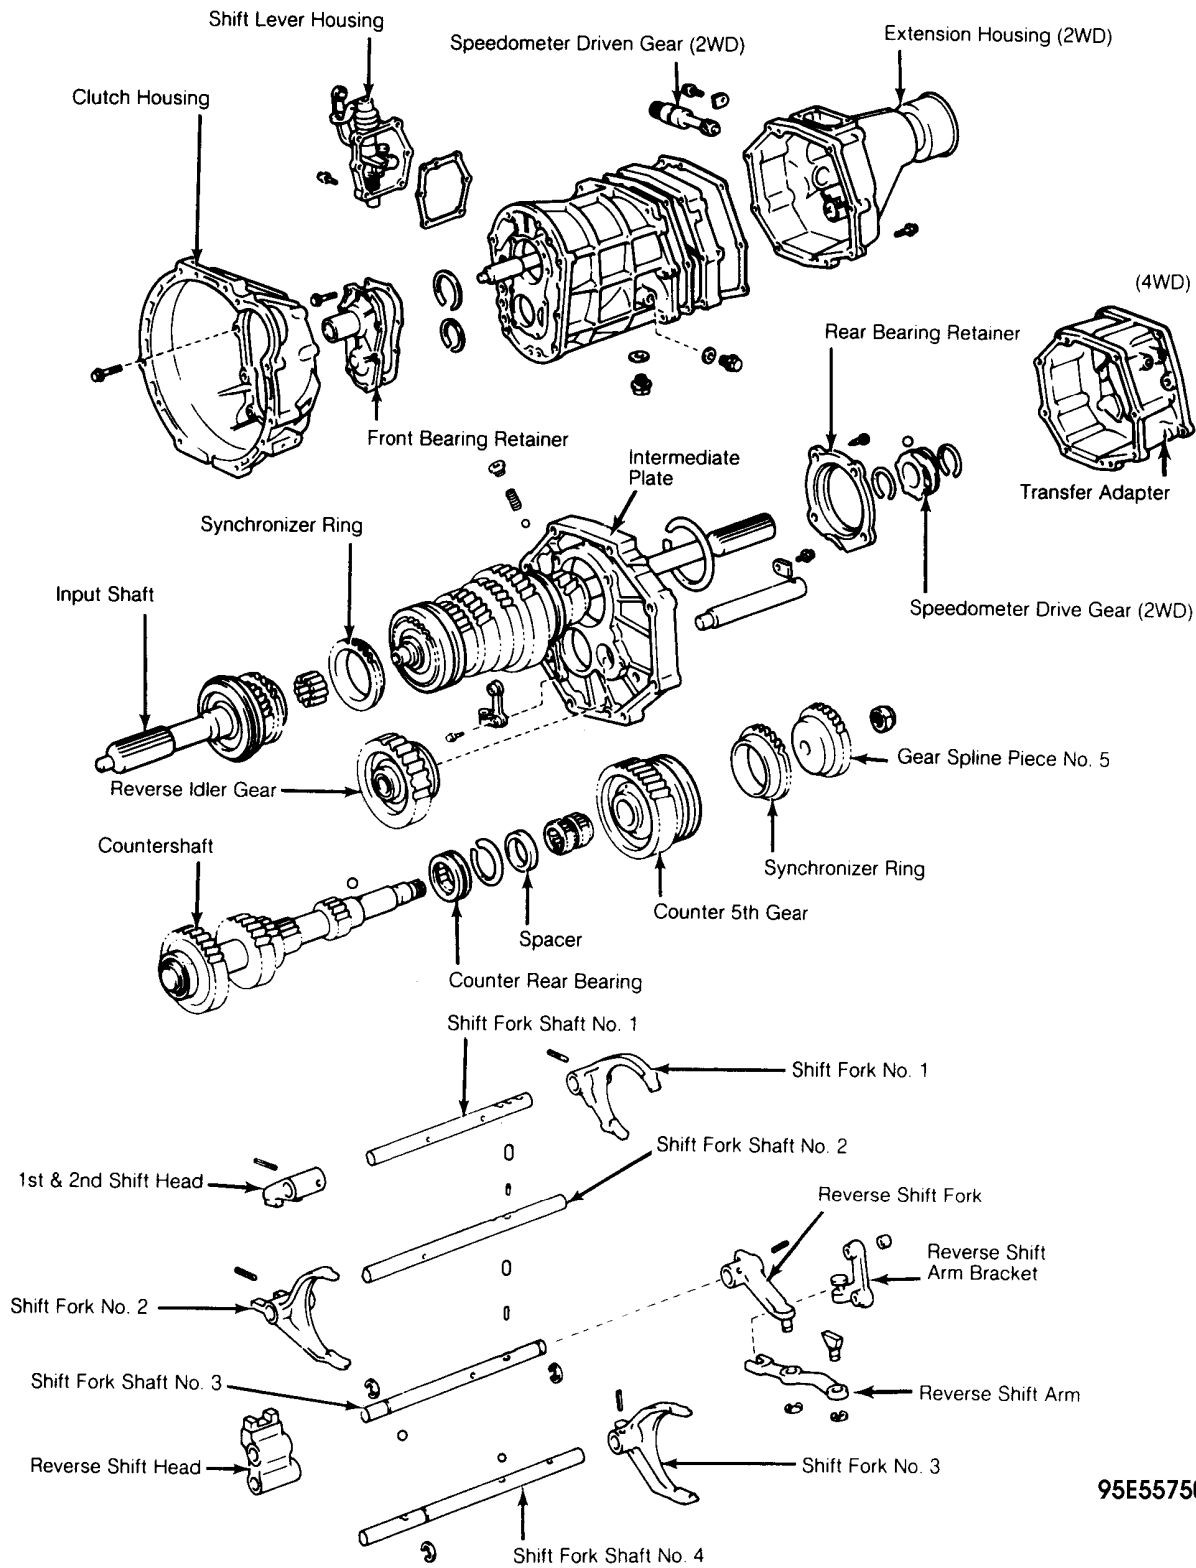

Fig. 3: G53 Case & Shifter Fork Assemblies
2. Remove shift lever housing assembly. Remove 8 extension housing bolts. See Fig. 3 . Using plastic hammer, tap extension housing and remove.